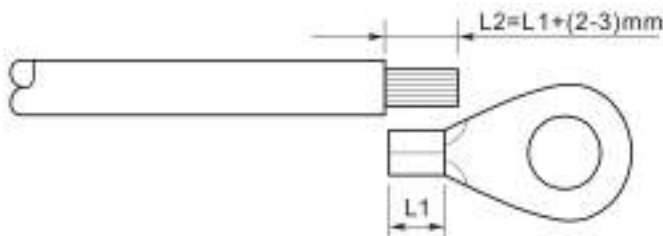

Figure 5-2 Grounding connection instruction (1)
Step 1: Remove the insulation layer with an appropriate length using a wire stripper shown as figure 5-2) .